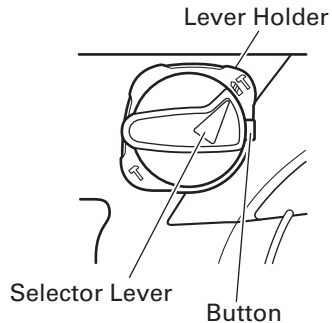

Fig. 7
- (1) Switching to “rotation + hammering”
- (b) Align ▲ of the selector lever and  of the lever holder as illustrated in Fig. 7.